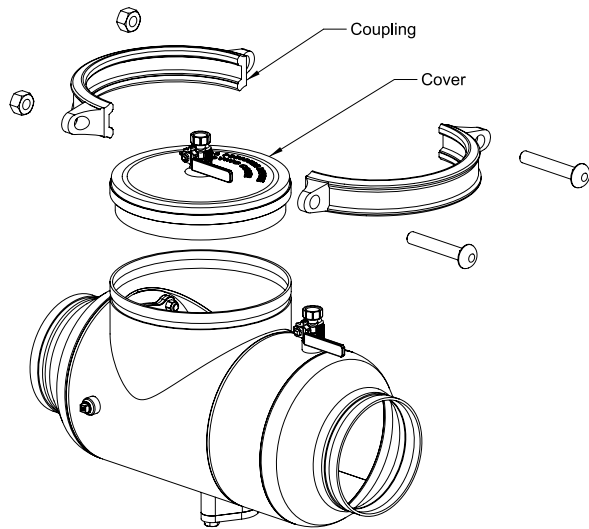
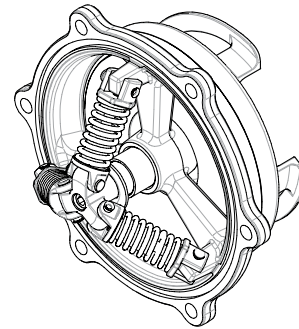

Figure 5
Figure 6
2. Lift off the cover. See Figure 5.
3. Remove the six (6) nuts for 8" valves/ eight (8) nuts for 10" & 12" valves with a 3/4" socket and ratchet.
4. Slide the entire check module off the body studs and remove from body (see Figure 6).